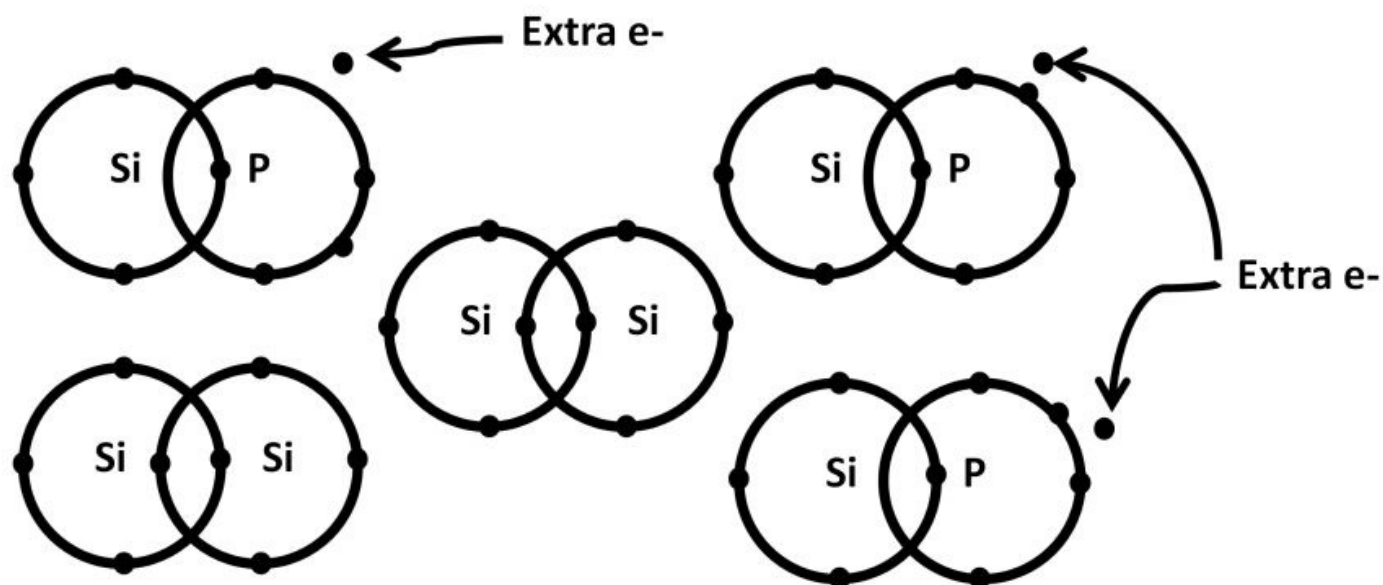

Figure 2.0b: Silicon implanted with phosphorus, net negative charge
In other words, it's eager to seek one electron to fill the outer shell with total of eight electrons, which is the maximum number of electrons a shell could accept. This process leaves a net positive charge. P-type junction material means that the area is injected with more positive ions, namely holes. Precisely, the positive ion concentration and ratio is higher than with Ntype. It does not mean there are no electrons at all in a P-type region. The number of ions in a given junction area is defined by its carrier concentration (doping levels). For P-type, the holes doping level is high. To create an N-type junction, phosphorus (P) is bombarded with silicon. Because phosphorus has 5 electrons on the outer shell, it nets a total of 9 electrons (e-). This extra electron results in net negatively charged silicon. An N-type junction is defined as the area that is dominated by negative ions, namely higher electron concentrations (see figure 2.0b).